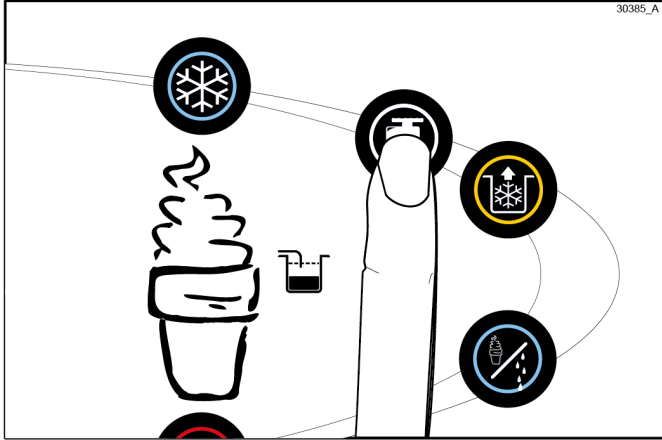

Figure 6-55
4. Press the Wash symbol . This will cause the cleaning solution in the freezing cylinder to come in contact with all areas of the freezing cylinder. Wait at least 5 minutes before proceeding with these instructions. (See Figure 6-55.)